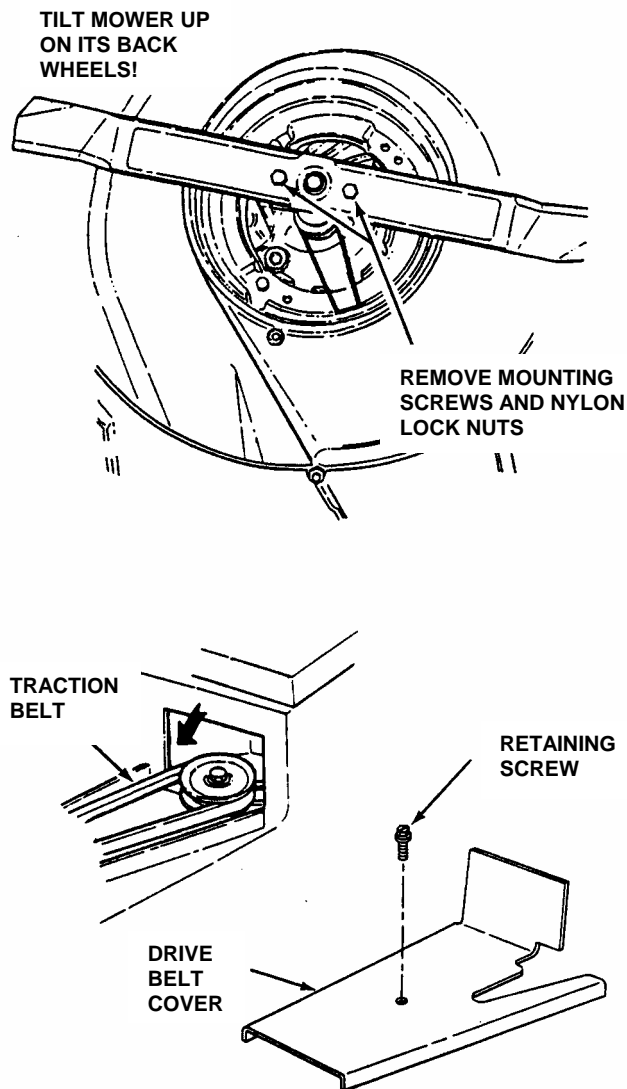

FIGURE 4.5
2. Remove the retaining screws that secure the belt cover. Remove the belt cover. See Figure 4.5
5. Remove the retaining bolts and nuts that secure the blade. Remove blade. See Figure 4.5.